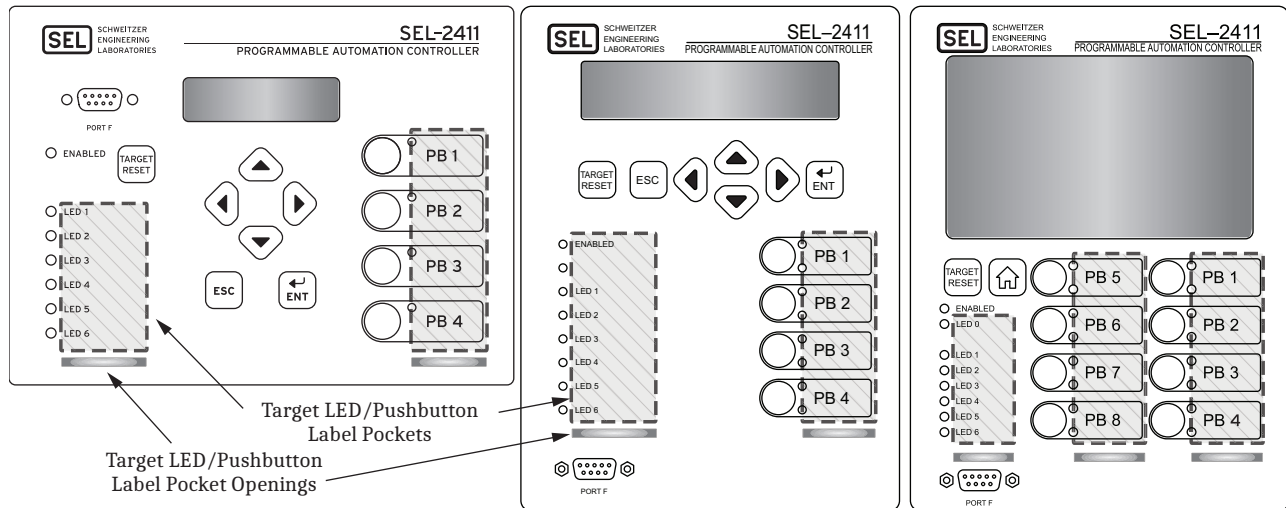

Figure 1 Typical SEL-2411 Configurable Label Areas
The SEL-2411 Configurable Labels Kit provides the materials and information needed to customize the target LED and operator control pushbutton areas of the front panel. *Figure 1* shows the pocket areas and openings.
- Step 1. Slide the tip of the tool under the label at the pocket opening (see *Figure 1* for example opening locations).